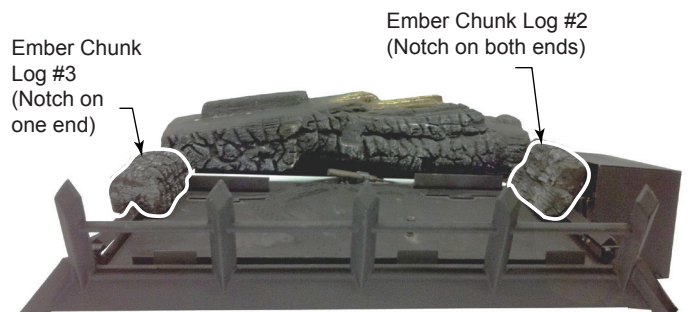

Figure 37
- Place the ember chunk (#2) with notch on both ends on the grate bar right side of the burner adjacent to the controls. Push towards rear as far as possible. *Figure 37*
- Place the ember chunk (#3) with notch on one end on the grate bar left side of the burner with notch towards rear. Push towards rear as far as possible. *Figure 37*